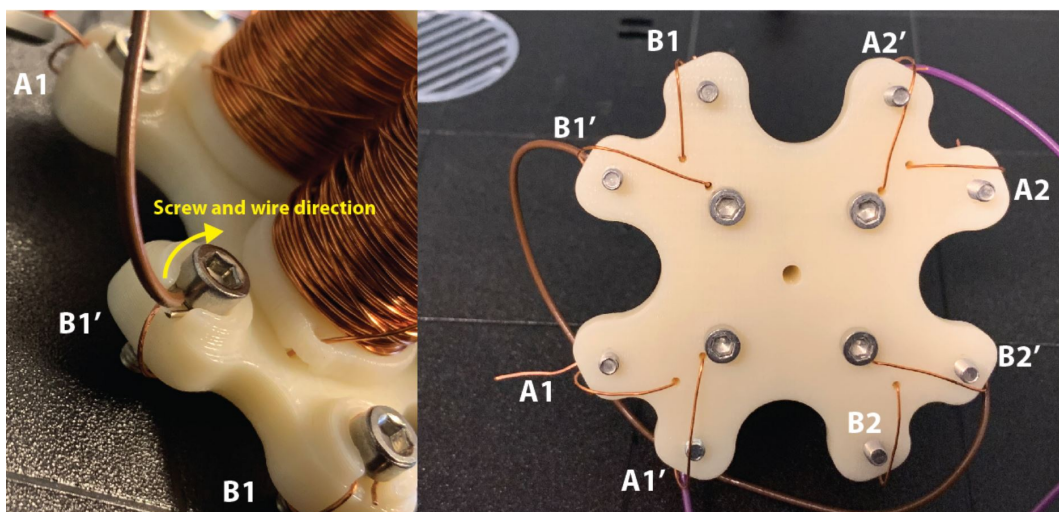

Figure 6: Terminals with preferred wire direction (clockwise), and wiring on the underside.
4. Use the drill and fill 3 more reels. Grind off the lacquer insulation of all ends and connect the inductors, as illustrated in Fig. 3 left, Fig. 4 right, and Fig. 6/7. The direction of the magnetic field is found by
- In the terminals, it is best to feed all wires around the screws in the clockwise direction (Fig. 6 left), otherwise tightening the screws may push the wires back and out of the screw area.